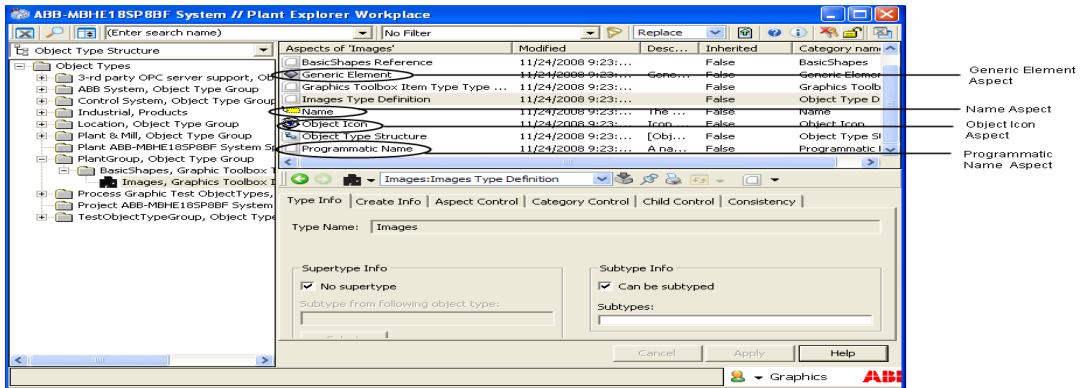

Figure 277. Aspects of Toolbox Item object
6. Select the **Generic Element** aspect of the toolbox item object as shown in Figure 277.
8. Select the **Name** aspect of the toolbox item object as shown in Figure 277. Type a name for the aspect in the preview area.
9. Select the **Programmatic Name** aspect of the toolbox item object as shown in Figure 277.
12. Right-click on **Object Icon** aspect (refer Figure 277) and select **Details** from the context menu. Repeat step 7. This aspect is used for defining icon for the element in the toolbox.